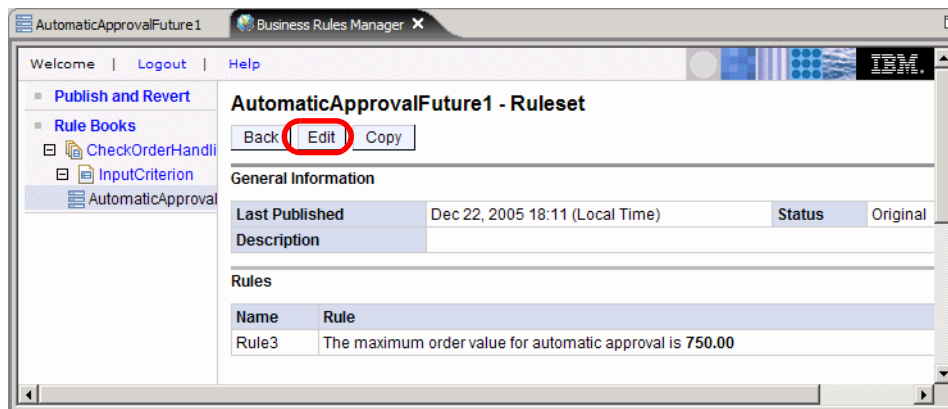

Figure 11-8 Business Rules Manager: Ruleset
- ▶ Select *AutomaticApprovalFuture1* under Rule Books (Figure 11-8).